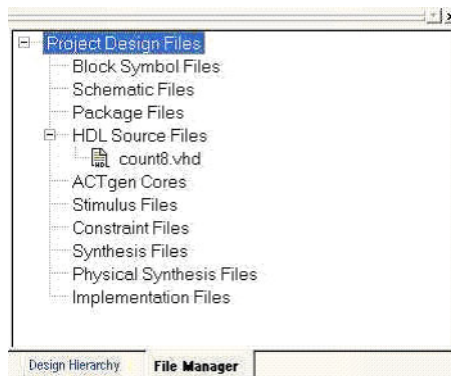

Figure 7-10 • Design Hierarchy and File Manager Tabs
4. Check the HDL in the file before you continue. In the Design Hierarchy or File Manager tab (Figure 7-10), right-click **count8.vhd** and select **Check HDL file**. This checks the syntax of the *count8.vhd* file. Before moving to the next section, modify the code if you find any errors.